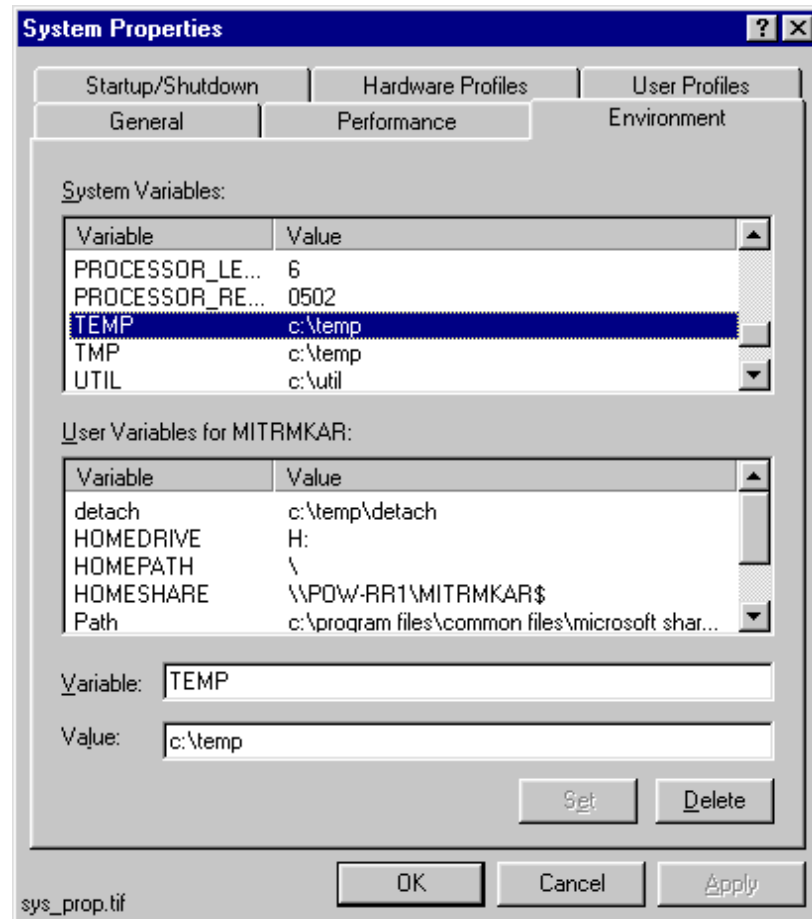

Fig. 7.11.2.-1 The TEMP environment variable setting
2. Choose the Environment page as shown in Fig. 7.11.2.-1 and locate the TEMP variable from one of the lists. The setting may be defined both as a System and a User variable. If found, the User variable setting overrides the respective System variable setting